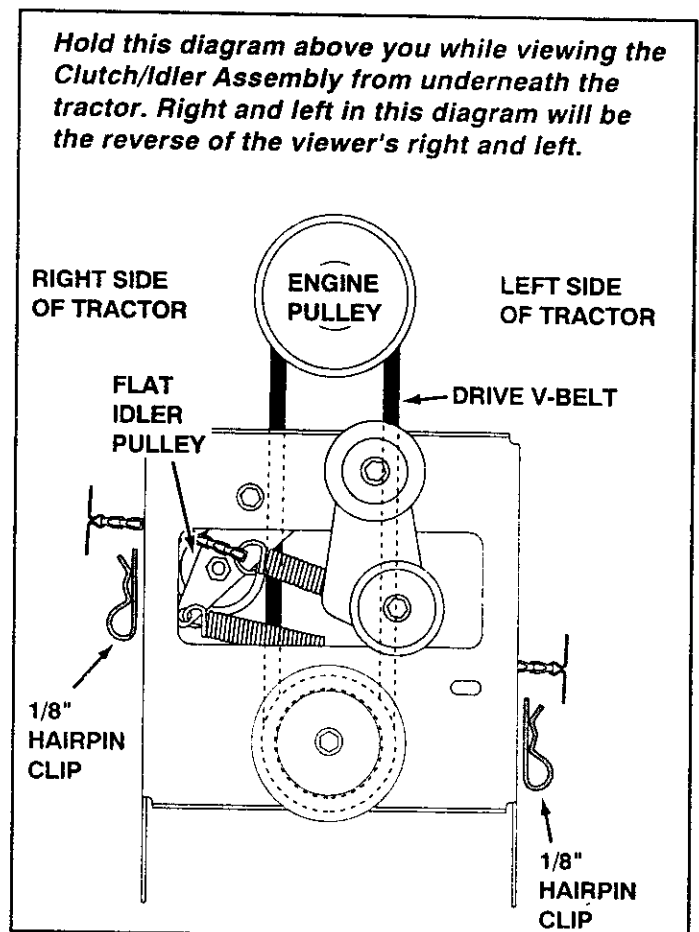

FIGURE 16
- Remove both **outside** 1/8" hairpin clips which are assembled to the tension adjusting chains on the outside of the clutch idler assembly frame. (The clips will be reinstalled after both belts have been assembled.) **Do not remove** the 3/32" hairpin clips assembled to the chains on the **inside** of the assembly frame. See figure 16.
- Assemble the drive belt onto the tractor's engine pulley and then onto the upper rear pulley on the clutch/idler assembly. Keep the flat idler pulley on the outside of the belt. See figure 16.